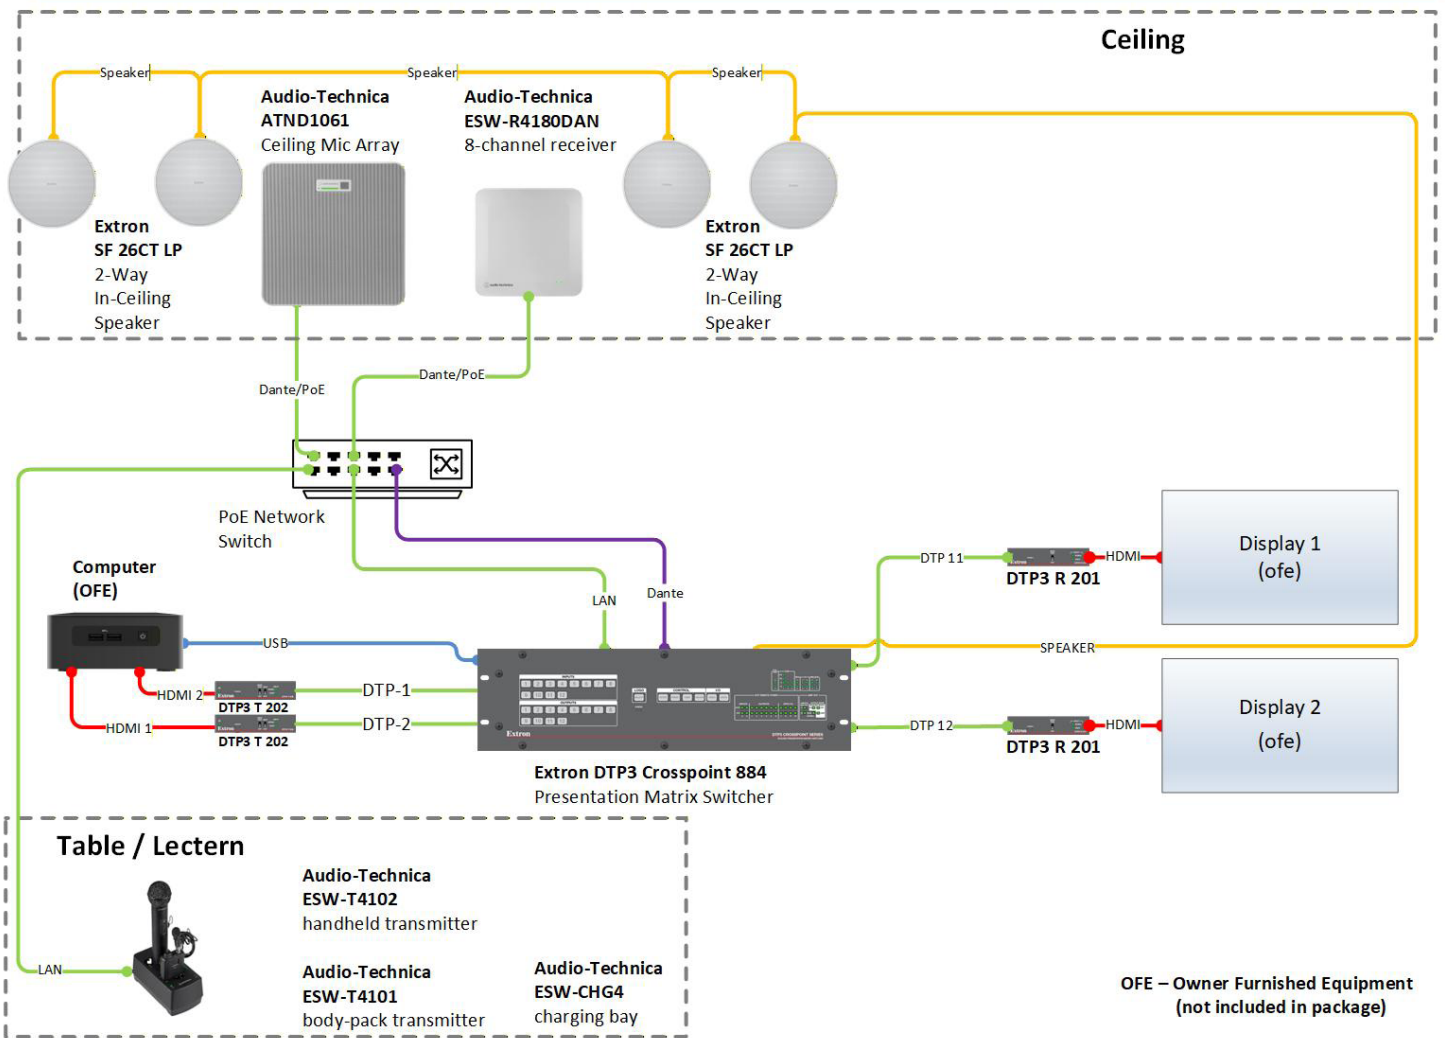

Figure 1. System Diagram Example
1. Unbox and connect the provided hardware using the diagram in figure 1 on page 2.